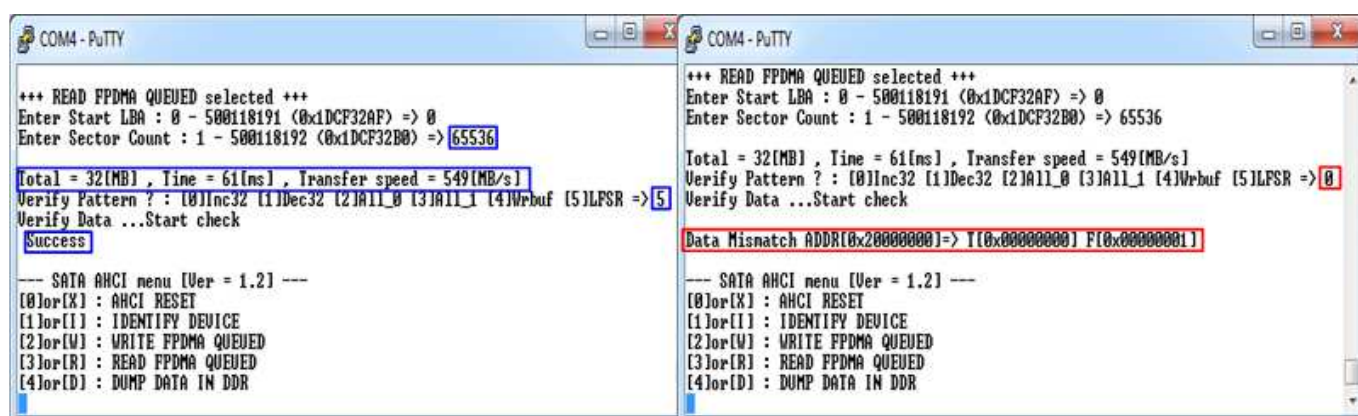

Figure 3-6 READ FPDMA QUEUED with verify process
- Verify Pattern (Optional): this value is used for selecting verification pattern. This input should be matched with the pattern in WRITE FPDMA QUEUED menu. Six verification patterns can be selected, similar to write pattern. "Verify Data ... Success" is displayed for success case, and "Data Mismatch with failure value" is displayed for failure case, as shown in Figure 3-6.